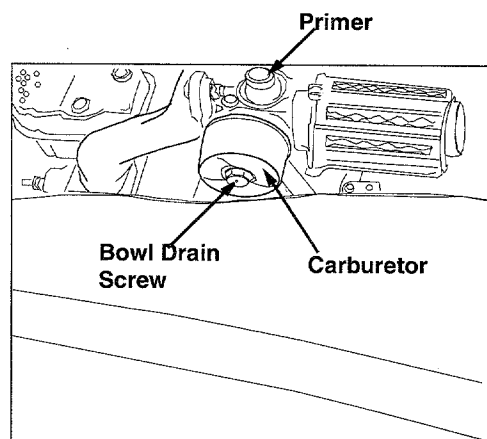

Figure 19
- Loosen the bowl drain screw **a few turns**. The bowl drain screw is located below the carburetor. See Figure 19. Do not remove the screw completely. Drain the carburetor.